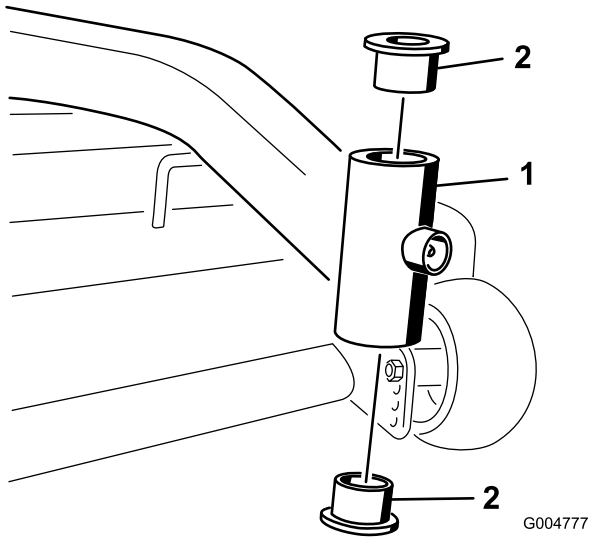

Figure 33
- Insert a pin punch into the mounting tube and carefully drive out the bushings (Figure 33). Clean the inside of the mounting tube.
- Inspect the caster wheel fork for wear and replace if necessary (Figure 33).
- Slide the caster wheel fork through the bushings in the mounting tube. Replace the spacer(s) onto the fork and secure with the retaining ring (Figure 33).